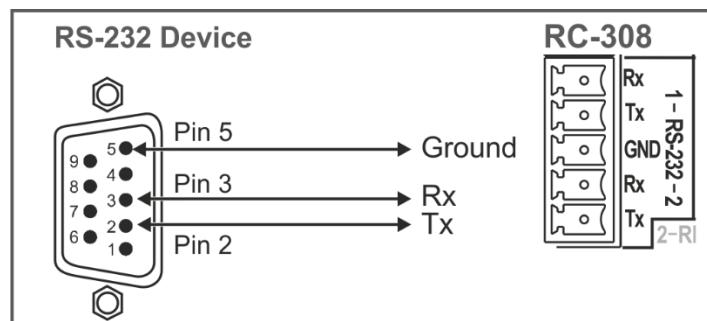

Figure 8: RS-232 Connection
You can connect a device to the **RC-308**, via the RS-232 terminal block ⑦ on the rear panel of the **RC-308**, as follows (see Figure 8):